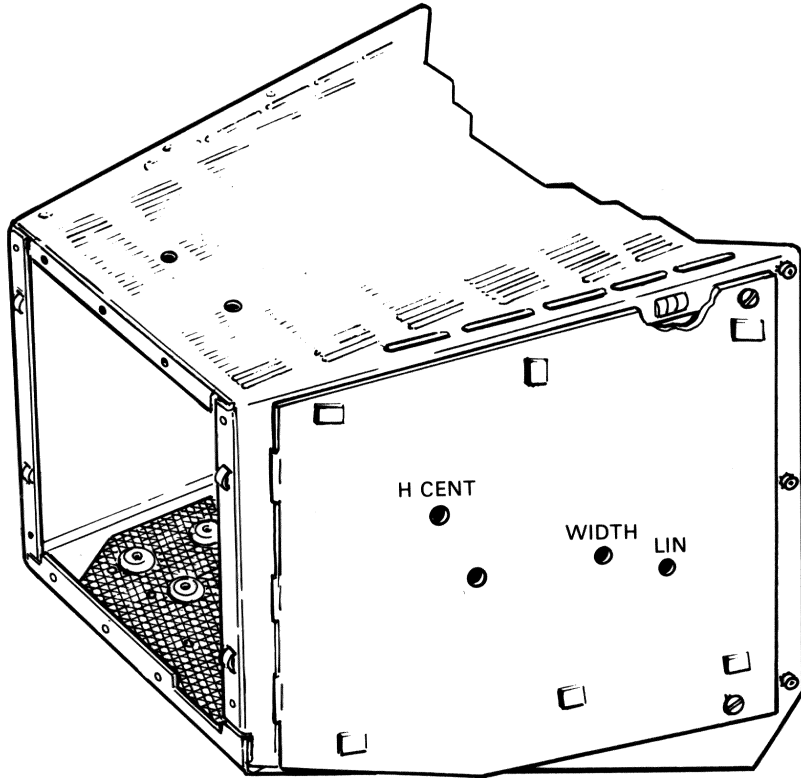

Figure 6-35 VR260 Monitor Adjustments (H CENT, WIDTH, and LIN)
- c. On the left side of the chassis (Figure 6-35), adjust LIN (horizontal linearity) for horizontally uniform squares across the display. Note that the display size should be near or at maximum, and positioned toward the left of the screen.